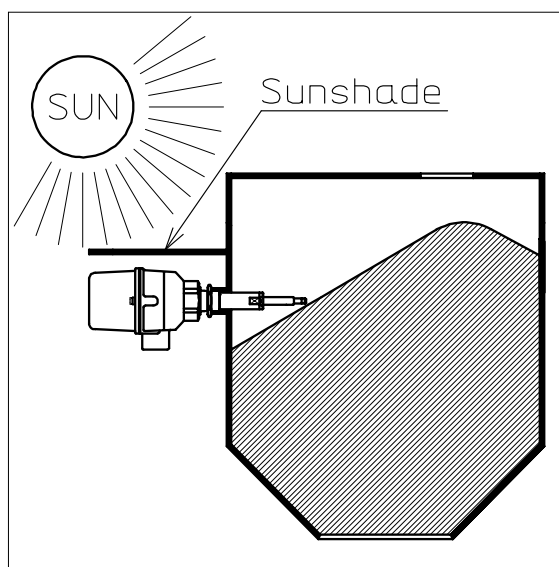

Fig. 4-1
- (3) Do not install the sensor where it gets direct sunlight. [See Fig. 4-1]